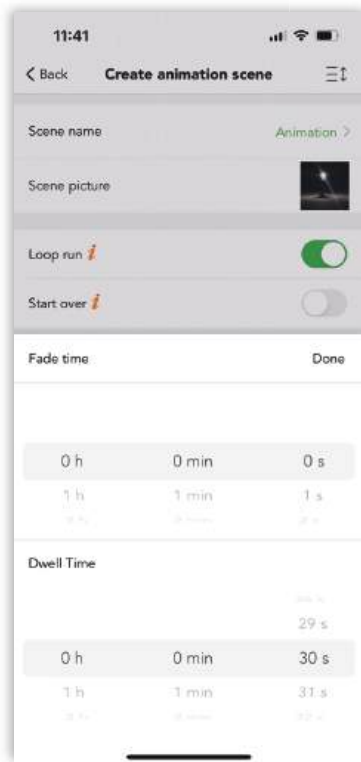

Figure R1.26 Fade time and Dwell time
Step 2 Determine the fade time and dwell time.(see figure R1.26)